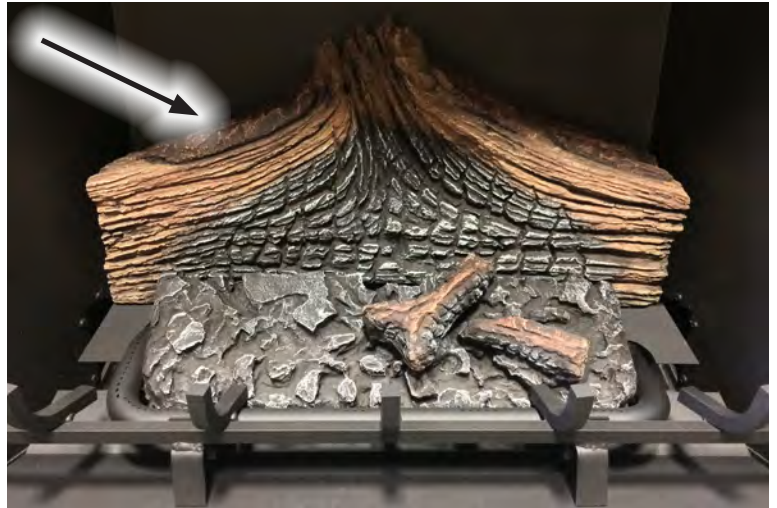
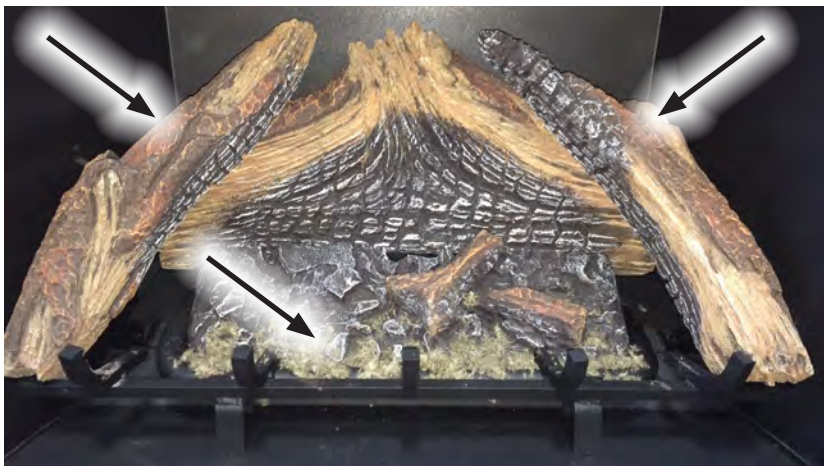

Figure 38. Back Log and Ember Bed Installation
Figure 39. Left and Right Large Logs with Ember Wool
- (1) If an offset is necessary in the attic to avoid obstructions, it is important to support the vent pipe every **3' (914 mm)**, to avoid excessive stress on the elbows, and possible separation. Wall straps are available for this purpose (see Figure 38).
- (2) When ever possible, use 45° degree elbows instead of 90° degree elbows. The 45° degree elbow offers less restriction to the flow of flue gases and intake air.
- (3) For multi story installations; a ceiling firestop is required at the second floor, and any subsequent floors (see Figure 39). The opening should be framed to **10" (254 mm) x 10" (254 mm)** inside dimensions, in the same manner as shown in Figure 40.
- (4) Any occupied areas above the first floor, including